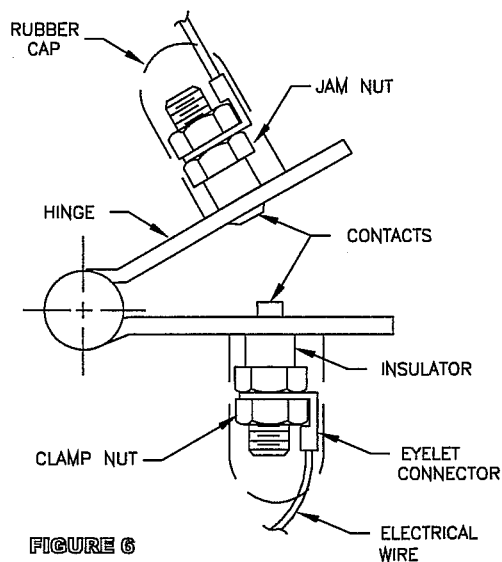

FIGURE 6
1. Attach wires to correct contacts. See FIGURE 6. Recommend using eyelet connector as shown for good connection.